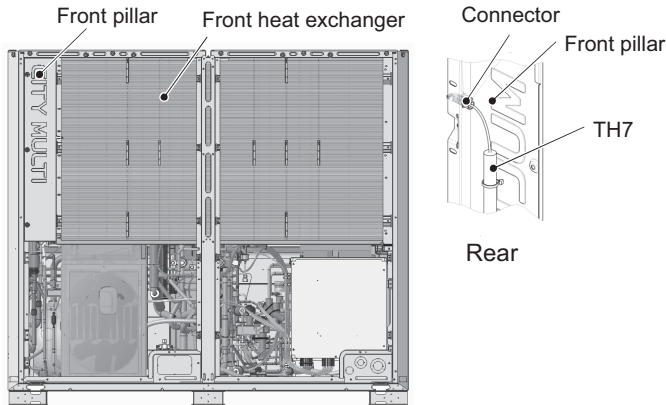

Figure 14
Removing the standard front heat exchanger (Figure 14)
- (12) Remove the front pillar by unscrewing the 7 screws. (See Figure 14.)
- (13) Disconnect the TH7 sensor holder from the front pillar. (See Figure 14 Rear.)